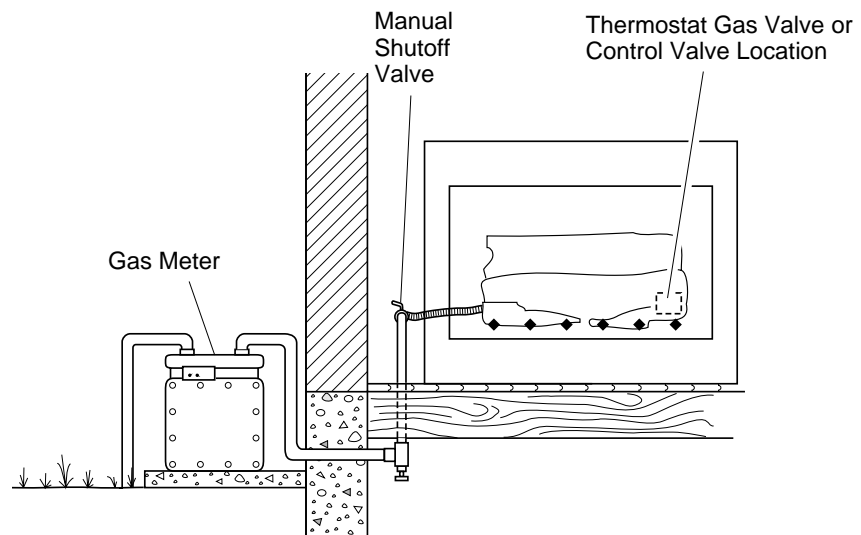

Figure 15 - Checking Gas Joints
3. Check all joints from gas meter to manual shutoff valve (see Figure 15). Apply mixture of liquid soap and water to gas joints. Bubbles forming show a leak.
4. Check all joints from manual shutoff valve to thermostat gas valve (thermostat-controlled models) or control valve (variably-controlled models) (see Figure 15). Apply mixture of liquid soap and water to gas joints. Bubbles forming show a leak.